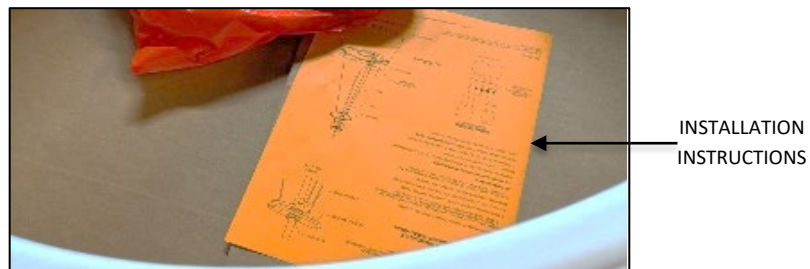

FIG.3 INSTALLATION INSTRUCTIONS
2. INSTALLATION INSTRUCTIONS (shown in FIG. 3) - Please completely read the install instructions before starting installation.